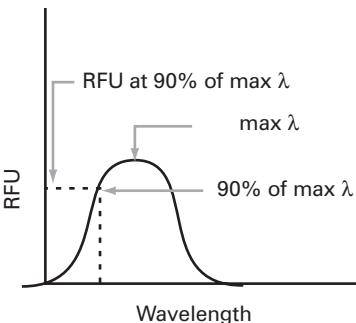

Figure 4.1: Plot of RFU vs. wavelength.
- f Select the optimal excitation wavelength. If the excitation peak wavelength and emission wavelength are separated by more than 80 nm, use the excitation peak wavelength value. If the excitation and emission wavelengths are less than 80 nm apart, use the shortest excitation wavelength that gives 90% maximal emission. (Follow the plot to the left of the peak until the RFU value falls to approximately 90% of the maximum, and then drop a line from the 90% point on the plot to the x-axis—see Figure 4.1.)